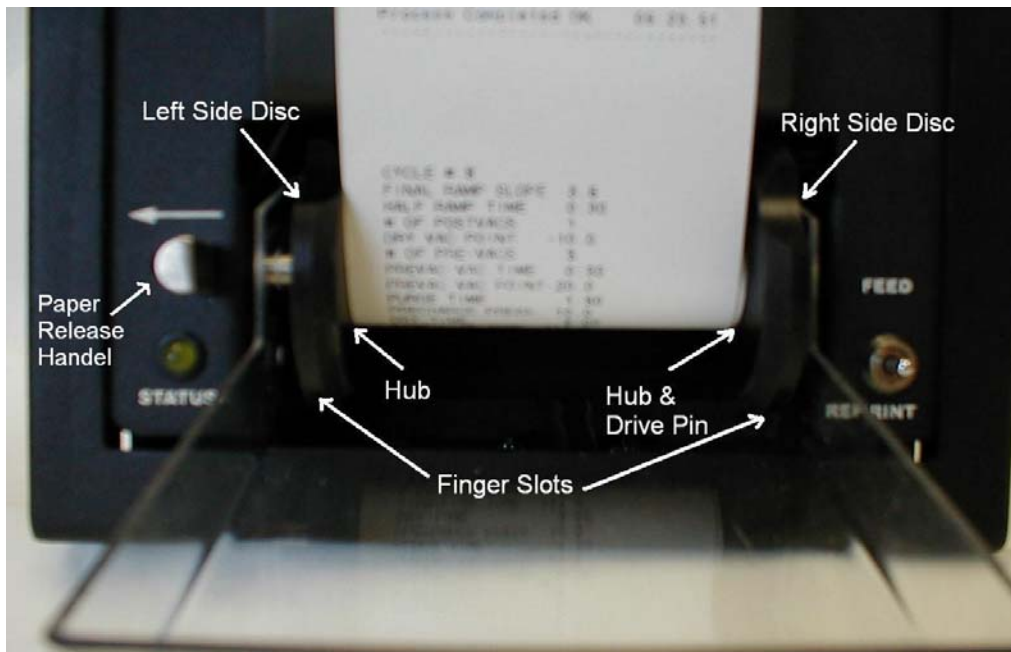

Figure 5.1.3 Loading Printer Take-Up Spool
1. The removable spool snaps between the two rotating discs (see Figure 5.1.3, Loading Printer Take-Up spool). The slot in the removable spool must be aligned with the drive pin on the right side of the disc.
3. While grasping the paper roll in the take-up area, push the paper release to the left. (See Figure 5.1.3, Loading Printer Take-Up Spool)